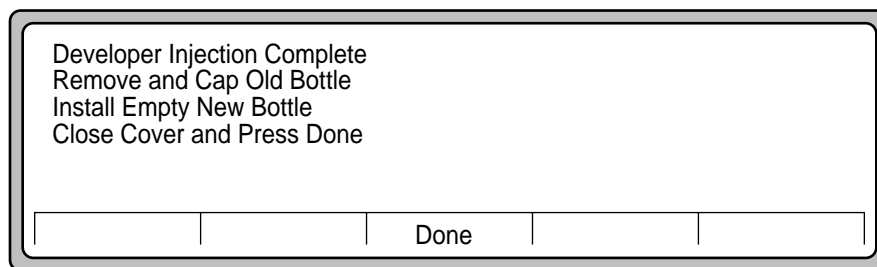

Figure 2-57 Developer Complete
8. Press the **Done** button on the Control Panel. You will see the screen shown in Figure 2-57, since you are installing the developer for the first time, you do not have to worry about the old bottle.